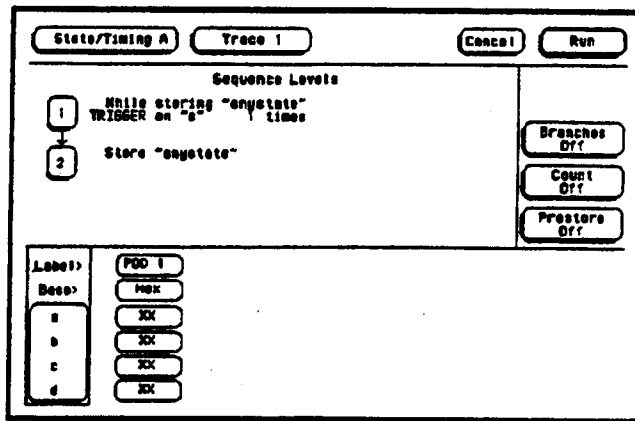

Figure 3-14. Trace Screen
- Configure the Trace screen without sequencing levels and set Count to Off as shown in figure 3-14.